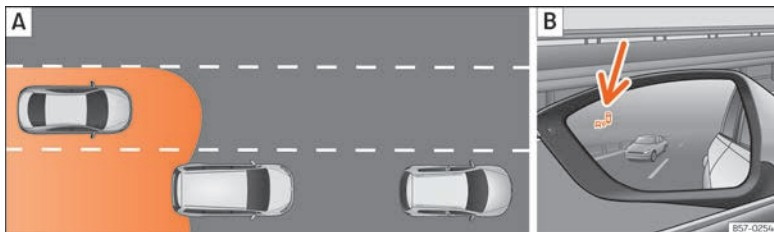

Fig. 276 Schematic diagram: **A**) Passing situation with traffic behind the vehicle. **B**) Indication from the blind spot detector in the left-hand external mirror.
The radar sensors are located on the left and right of the bumper and are not visible from the outside »» Fig. 275. The sensors monitor both the blind spot and traffic behind the vehicle »» Fig. 276, »» Fig. 277. The range to the sides of the vehicle is a bit larger than the width of a lane.
In the following situations, an indication will be displayed in the external mirror »» **Fig. 276 B**) [arrow] or »» **Fig. 277 B**) [arrow]:
- When being overtaken by another vehicle »» **Fig. 276 A**).